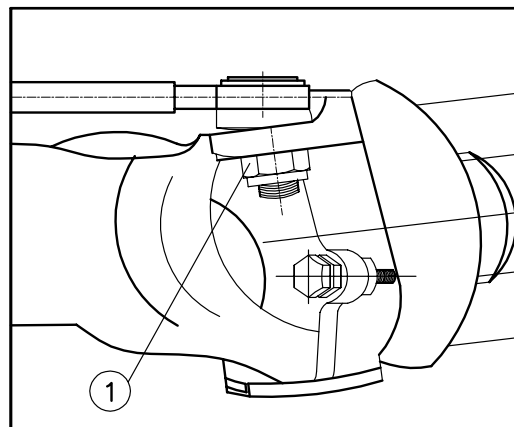

Fig.5-24
Have the knuckle joint nuts (1) checked by an authorized service center after the first 50 hours and then at every service (Fig. 5-24).